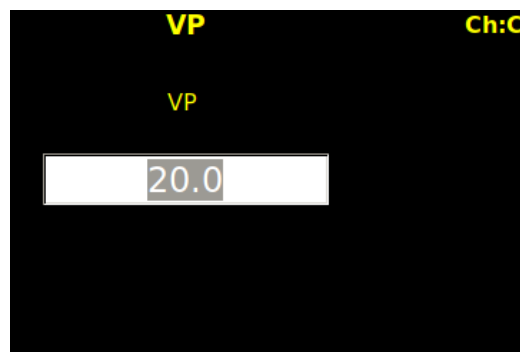

Figure 366: EVTM Embedded Transmitter Variable Power Selection
- VP - Scroll to the VP option to select the embedded transmitter power level. Click on VP to display the selection screen, as shown in Figure 366. A power value between 0.0 and 31.5 may be typed into the VP field, then press the Enter key on the front panel keypad.